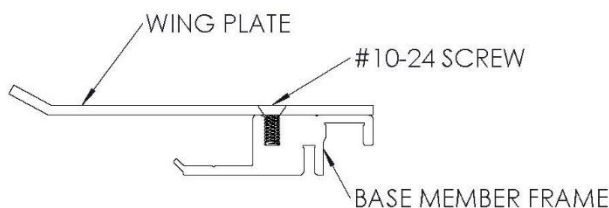

FIGURE 8
1. Remove the factory installed #10-24 screw that attaches the wing plate to the base member frame and retain for reinstallation later. *Note: In the 2" and 4" size this step is not necessary as the wing plate and frame are one piece.* **See Figure 8**